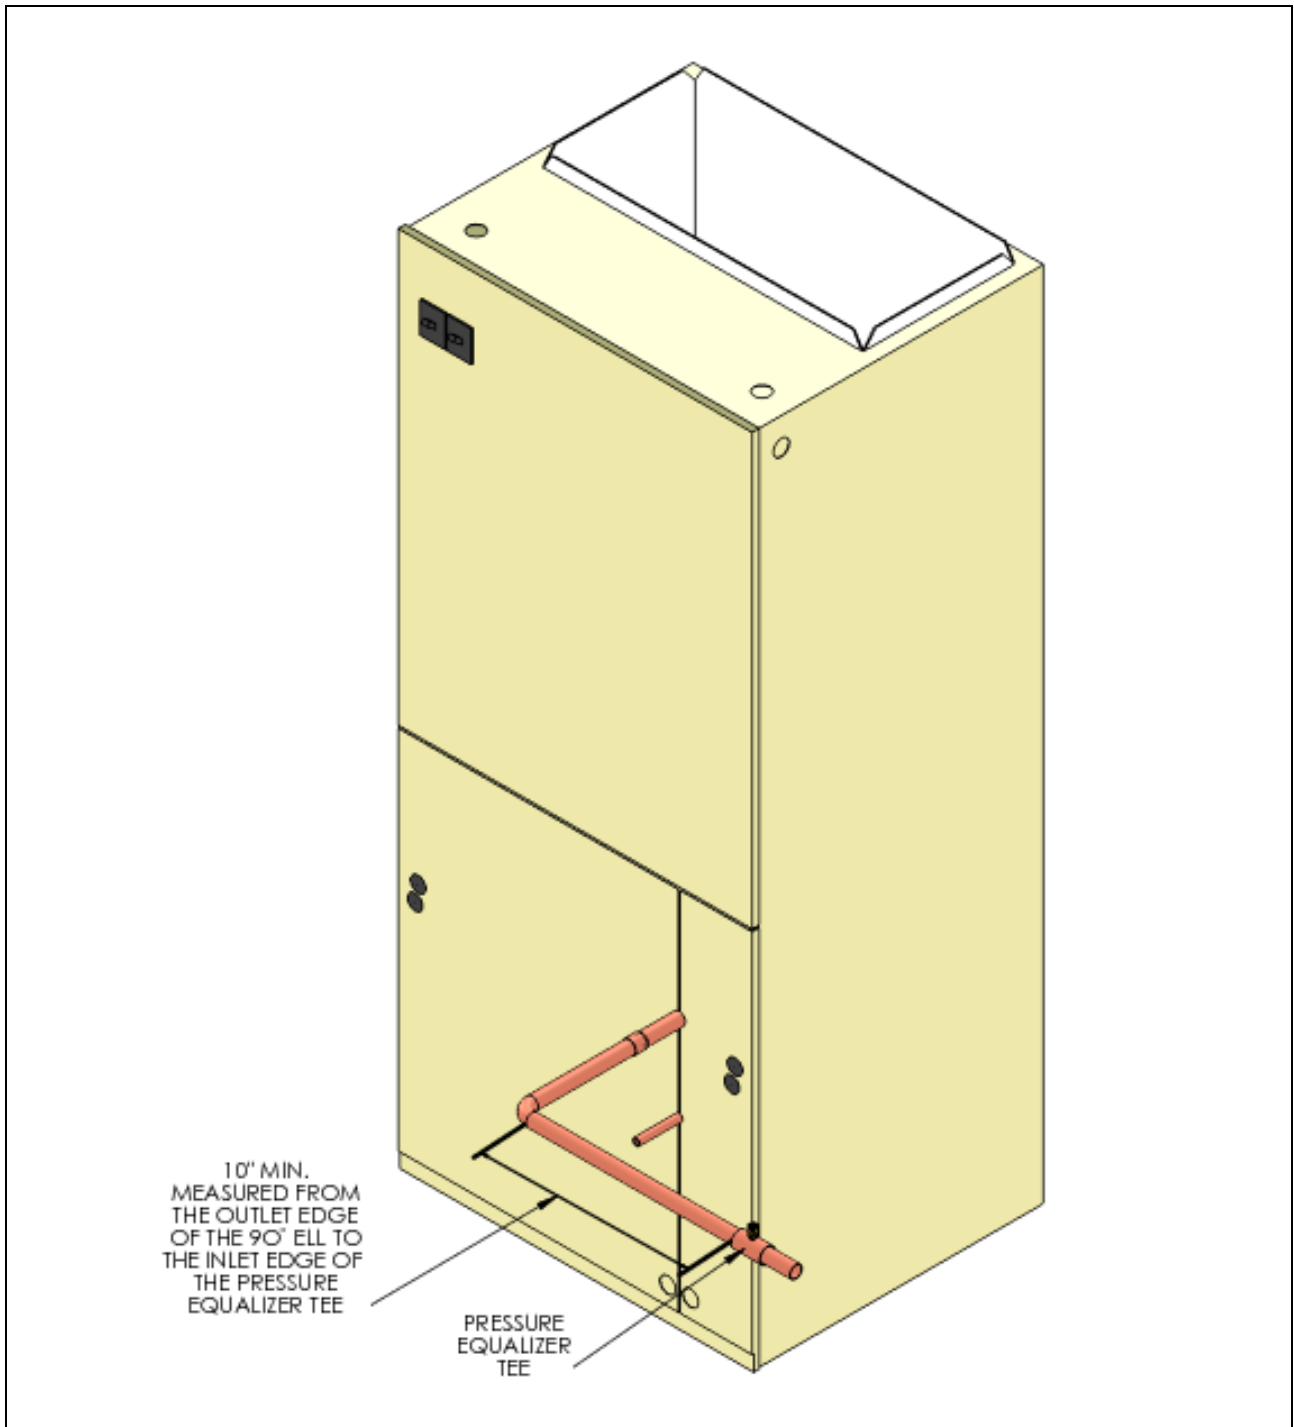

Figure 5. Positioning the Pressure Equalizer Tee
Step 2: Position the Pressure Equalizer Tee on the suction tube at least 10 inches downstream from the 90°ell, as shown in Figure 5. Remove the core from Schrader valve on the Tee.